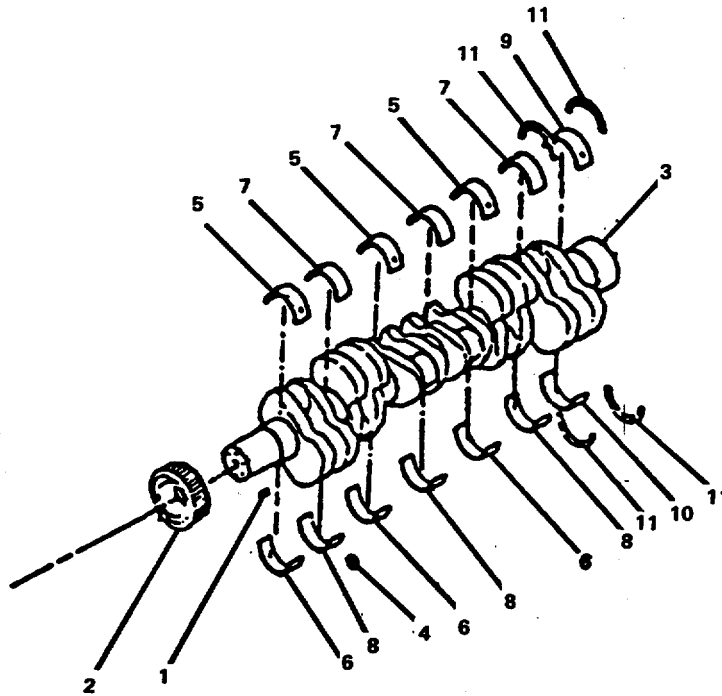

FIGURE 4-42. Crankshaft Group.
REMOVAL (Refer to FIGURE 4-42).
(10) Repeat step (2) to remove each bearing cap and bearings.
b. Remove the crankshaft gear (2, FIGURE 4-42), as follows:
(2) Install the crankshaft gear puller on the gear.
(3) Turn the pressure screw clockwise to remove the gear.
Do not damage the crankshaft when removing the key (1, FIGURE 4-42) .
(4) Use a flat chisel and hammer to remove the key.